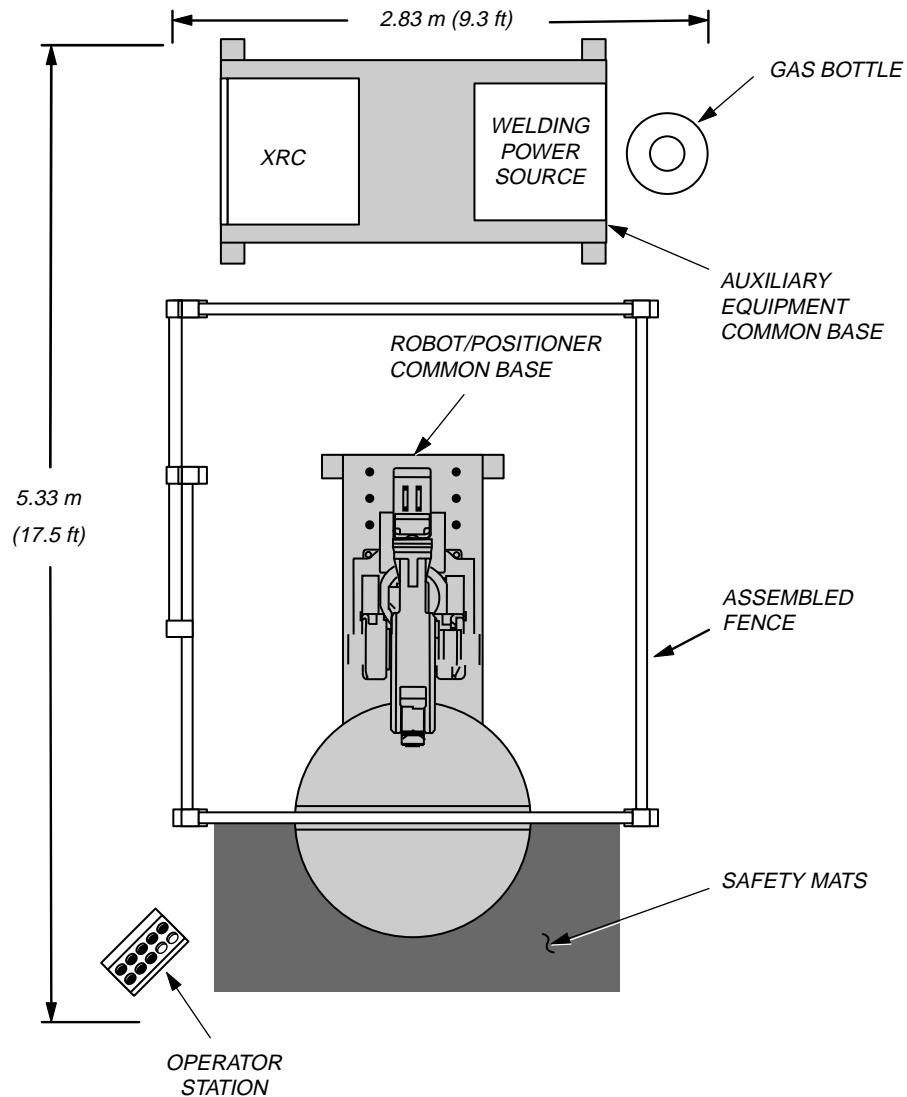

Figure 4-1 Area Needed for Installation
1. Clear floor space needed for unit (see Figure 4-1).
3. Place robot/positioner common base in position (see Figure 4-1).